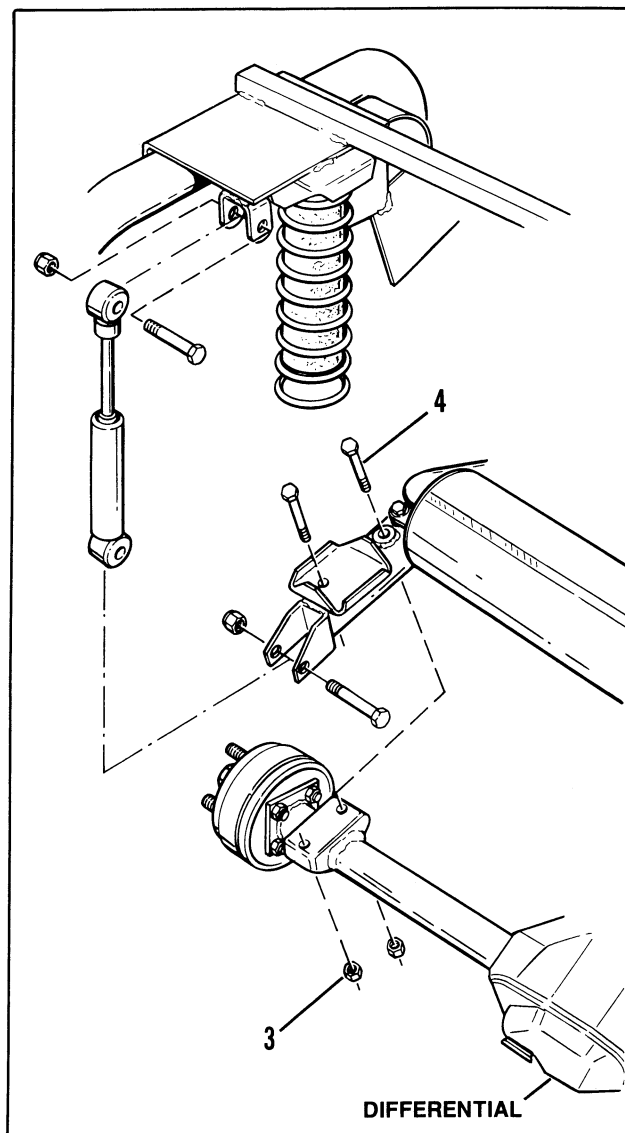

Figure 18 – Remove Differential Assembly
- Remove four locknuts (3) and four bolts (4), Figure 18. When reinstalling four locknuts (3), torque to 30 ft.-lbs. (4.1 kgm) and lower differential and frame.